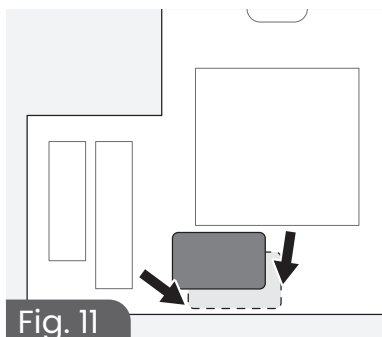

Fig. 11
2. **Align** new shipping label (f) with the with the existing shipping label and **adhere** it over the existing shipping label (Fig. 11).